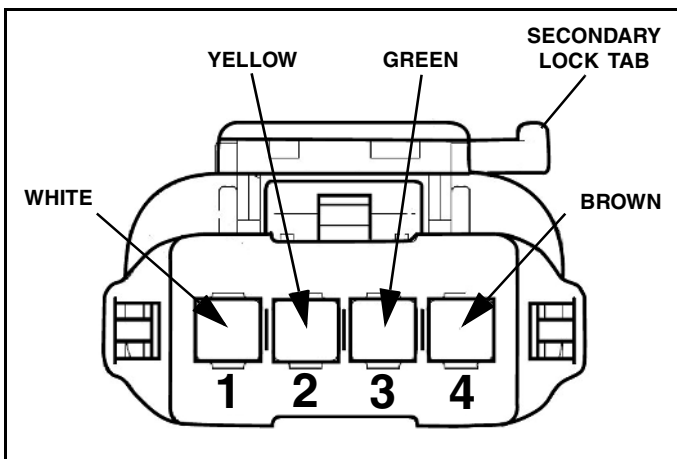

Figure 1-11
9. Remove blue pin lock from female connector. Push the pins on the end of each of the four wires into the back side of the connector (the end with recessed light blue seal). (See Figure 1-11 for pinning).
10. Verify wire placement by connecting the ProControl II™ harness. If wire colors do not line up, verify pin placement (See Figure 1-11).